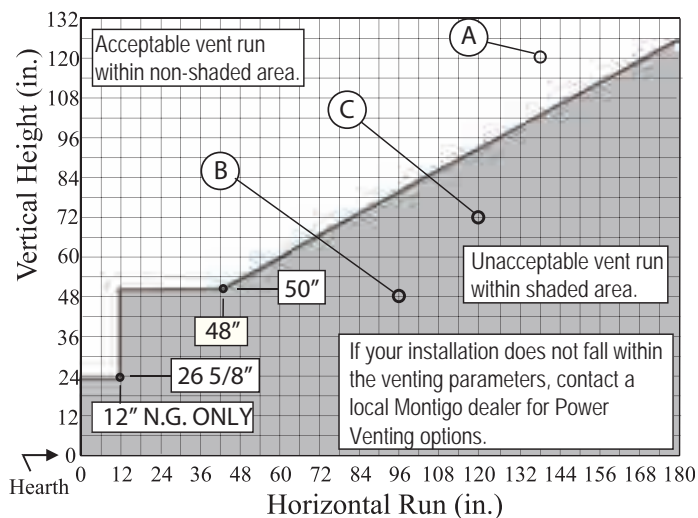

Figure 16. Rear Vent Venting Graph for wall mounted terminations.
- Venting runs must fall within the limits set by the venting graphs, see Figure 16.
Measure the vertical height from the fireplace hearth to the centre of the termination and the horizontal run from the fireplace flue collar to the wall flange of the termination. Plot on the Venting Graph Figure 16 with an 'X'.
Figure 16b. Rear Vented, wall mounted Multi-elbow termination installation. Installation for L42DF* must have a minimum vertical rise of 50". The vent run must comply with the Venting Graph for Rear vent, wall mounted terminations, Figure 16.